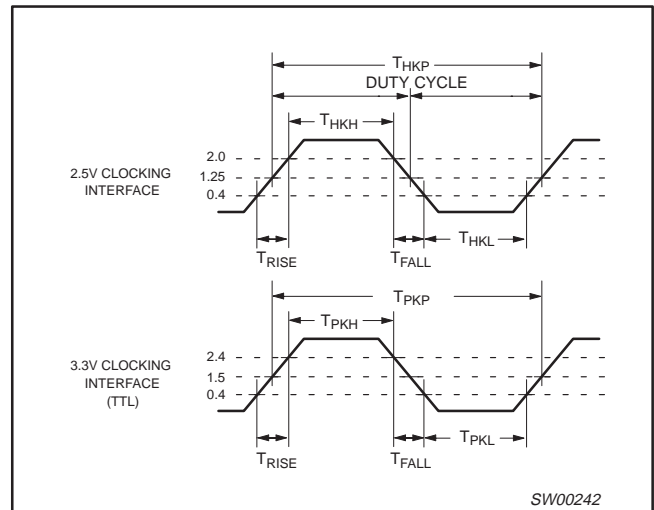

Figure 3. 2.5V/3.3V Clock waveforms
- See Figure 3 for measure points.